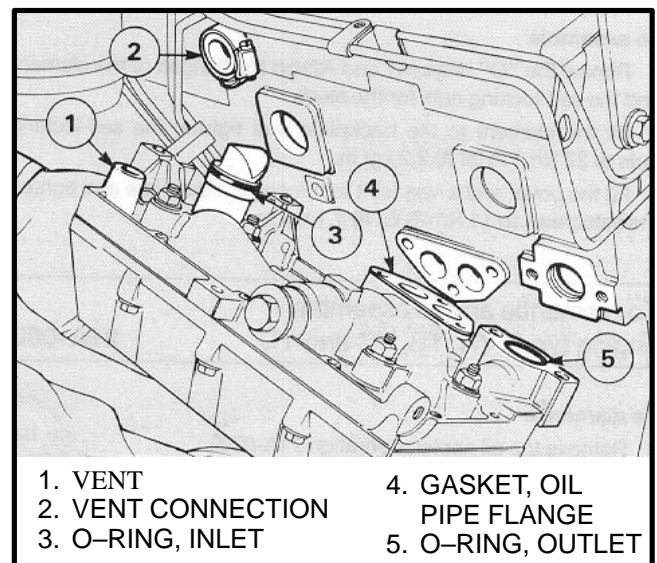

FIGURE 110. OIL COOLER JOINTS, ENGINE AB
1. See FIGURE 110. Use new O-rings on the inlet connection (3) for the coolant and the outlet flange (5) for the coolant. Make sure that the joint surfaces are clean. Use a new gasket (4) for the oil line flange.